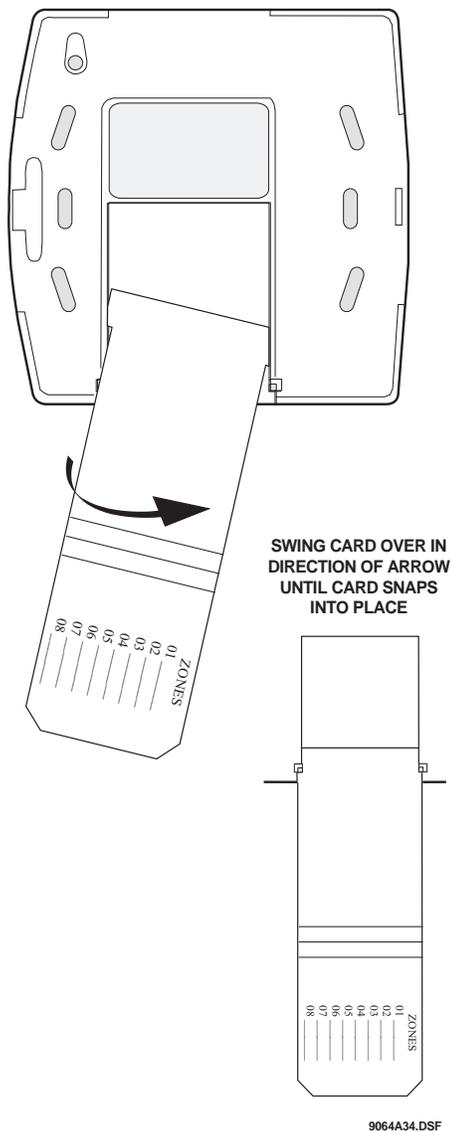

Figure 3. Inserting the Quick Guide Slide Card into the Mounting Plate
3. Looking at the back side of the mounting plate, turn it so the tab is on the left (see Figure 3) and position the Quick Guide slide card into the slots on the back of the mounting plate as shown. Make sure the card is unfolded and the “Zones” section is facing you.